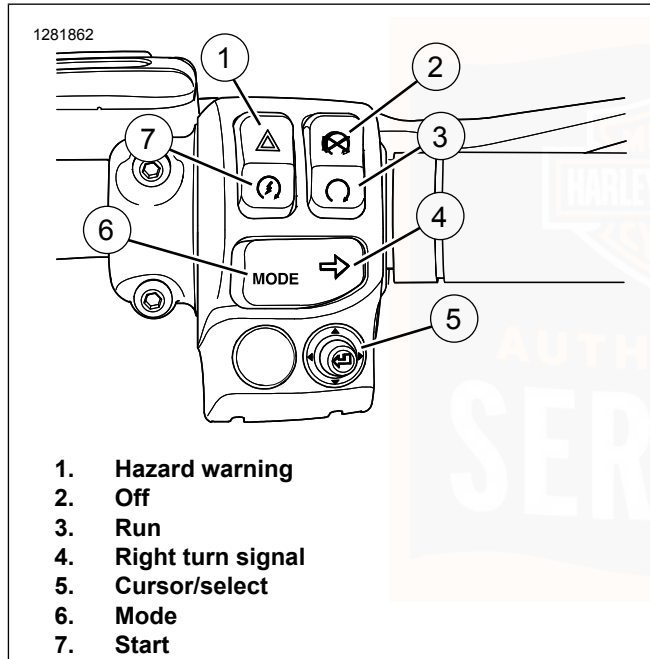

Figure 32. Right Hand Switch Module
See Figure 32. The hazard switch (1) is used to leave a stranded motorcycle in the 4-way flashing mode. With the flashers, the motorcycle can be left with the ignition off until assistance is found. Refer to Table 36.
See Figure 32. Press the OFF/RUN switch to OFF (2) to disable propulsion. Refer to Table 36.
See Figure 32. Push the OFF/RUN switch to RUN (3) to enable start switch. The OFF/RUN switch must be in the RUN position to enable propulsion. Refer to Table 36.
See Figure 32. Press the right turn signal switch (4) to activate the right turn signal. Refer to Table 36.
See Figure 32. The CURSOR/SELECT five-way switch (5) operates IM features. Refer to Table 36.
See Figure 32. Press the MODE switch (6) to cycle through and select the desired ride mode. Refer to Table 36.
See Figure 32. The start switch (7) is on the right handlebar control module. Refer to Table 36.
1. Switch the OFF/RUN switch to the RUN position (3). See Starting Motorcycle (Page 106).